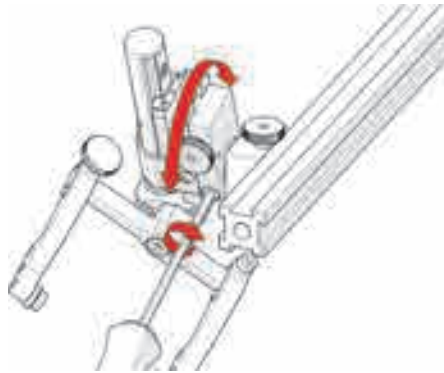

Figure 4-64 Rotate to position
3. Rotate the main body of the probe holder until it is at the desired angle (see Figure 4-64 on page 143).
4. Tighten the longitudinal adjustment screw (see Figure 4-64 on page 143).